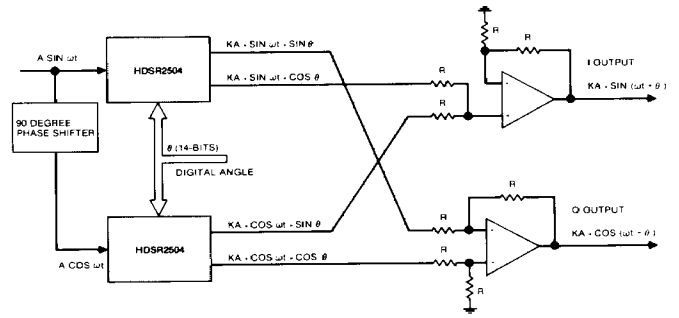

FIGURE 8 Precision Phase Shifter
Two HDSR2504s can be configured with external operational amplifiers to construct a precision digital phase shifter with in-phase (I) and quadrature (Q) outputs. Figure 8 shows the system to implement this function. If the digital angle θ is made to vary with time, modulation of the carrier signal can be accomplished. The I and Q outputs are phase-shifted replicas of the input carrier signal where the phase angle is the digital input angle, θ .
One interesting use for this phase shifter is in the frequency response testing of feedback control systems. The phase shift of the device under test can be measured on the oscilloscope by comparing the output from the system with the phase-shifted output from the circuit of figure 8. For each reading, the digital input (θ)